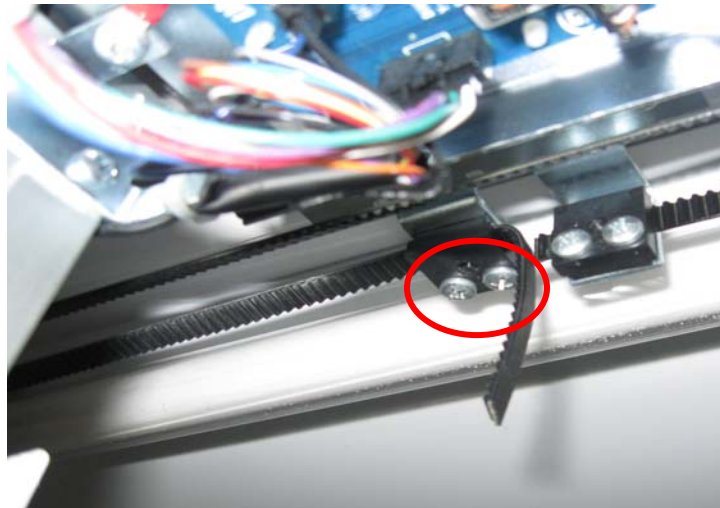

Figure 1
1. Locate the upper X Carriage and loosen the screws as shown in figure 1 to release the belt.
7. Re-install the belt, recalling how it was routed prior to removing in step 1. Pull the belt through the upper belt clamp as shown in figure 1, and pull on the belt so that the tension is set where the two holes in the upper left corner assembly are aligned as in figure 10. With the two holes aligned, tighten the upper X carriage belt clamp screws. **MAKE SURE THE BELT IS CLEAR FROM THE SPRING AND IT IS NOT TWISTED.**